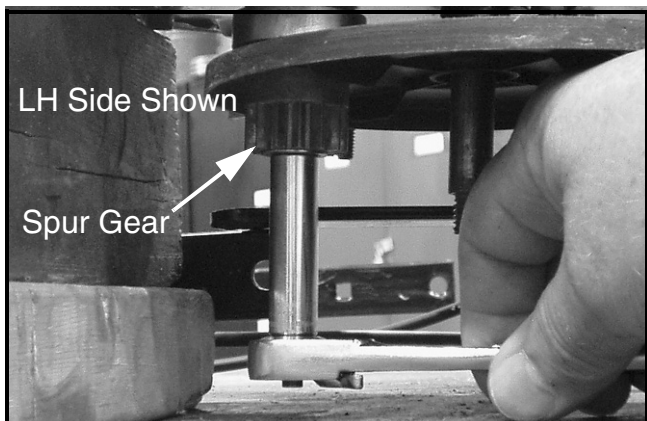

FIGURE 12
29. Using a 10mm socket (or 3/8" socket or T30 Torx bit however equipped) and ratchet **and holding the vise grip pliers to keep the transmission output shaft from rotating**, remove the screw retaining the LH spur gear to the transmission's output shaft and spur gear. Do the same for the RH spur gear. See Figure 12.